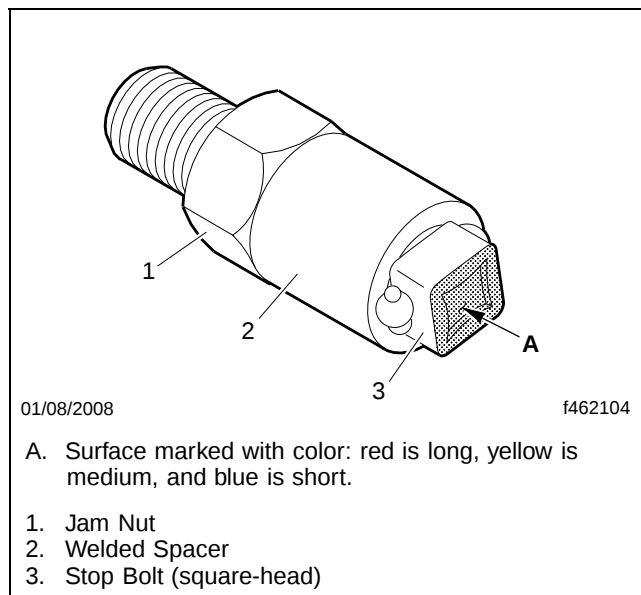

Fig. 7, New Axle Stop Bolt
36. If not already done, hand-tighten the jam nut against the welded spacer before installing each stop bolt. See **Fig. 7**.